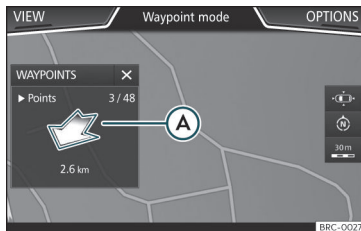

Fig. 187 Offroad route guidance mode
- The general direction of travel is indicated straight ahead by direction arrows in the Infotainment System pop-up window >>> **Fig. 187 A**.